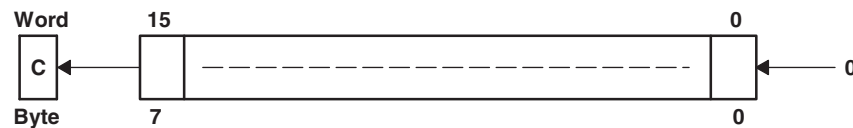

Figure 4-37. Destination Operand—Arithmetic Shift Left
Description The destination operand is shifted left one position as shown in Figure 4-37. The MSB is shifted into the carry bit (C) and the LSB is filled with 0. The RLA instruction acts as a signed multiplication by 2.